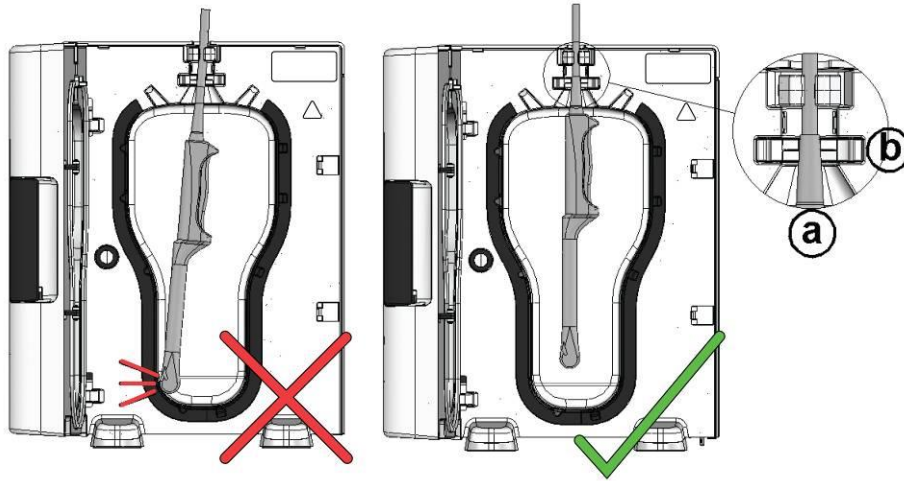

Figure 9
3. The probe is held securely in the chamber by the use of two clamps; refer to Figure 9(a).
The probe has a short sleeve at the back of the handle, covering the electrical cable. This is referred to as the PROBE GLAND - Figure 9(a)
- Hold the probe by its handle, press the top of the PROBE GLAND into the gland seal - Figure 9(a), ensuring the top of the probe cable gland is above the gland seal - Figure 9(b)